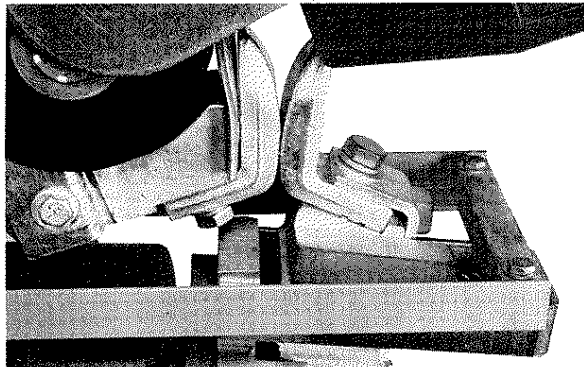
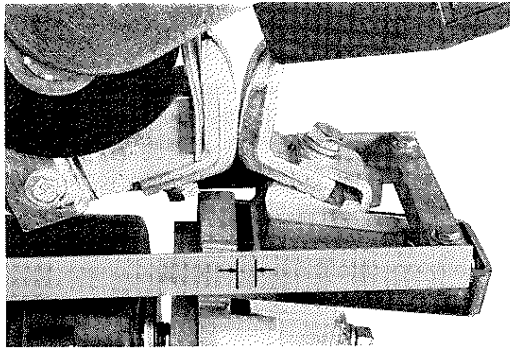

Figure 2
Figure 5
2. Check that the proper slot in the new movable contact tip is engaged with the ridge located on the auxiliary arm (12) (Fig. 2).
3. Check that the stationary contact tip is against the stationary support seat or the blowout coil guard (3) (Fig. 2).
4. Check that the contact tip surfaces are aligned both vertically and horizontally (Fig. 2).
The contact tips should be either repositioned or replaced when the contact follow-up is less than 1/16" (Fig. 5). The movable contact tip can be adjusted for additional tip life by repositioning so that the proper slot in the movable contact tip is engaged with the ridge located on the auxiliary arm (12) as shown (Fig. 5). Align the contact tips to meet squarely by the procedure in the ADJUSTMENT—Contact Tip Alignment instructions in this Service Bulletin using Figure 5 instead of Figure 2 for reference.